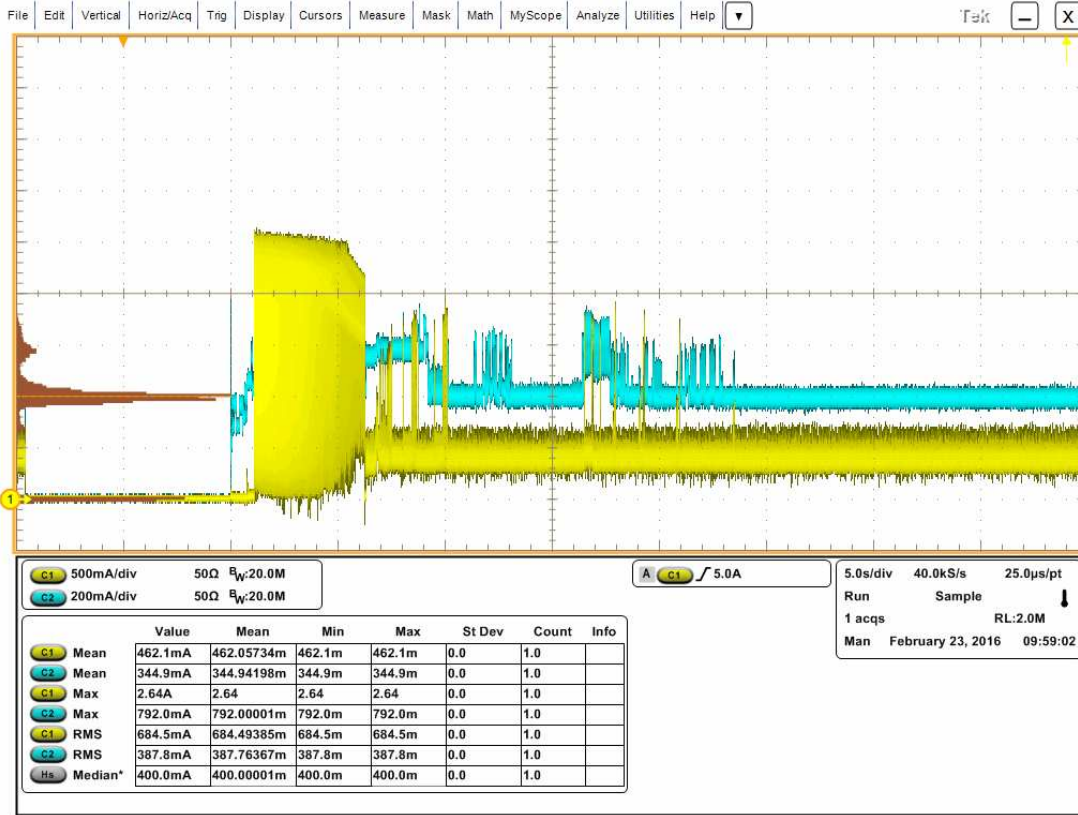

Figure 1. 4TB and 3TB models current profiles
- [3] See +12V current profile in Figure 1. (for 4TB models)